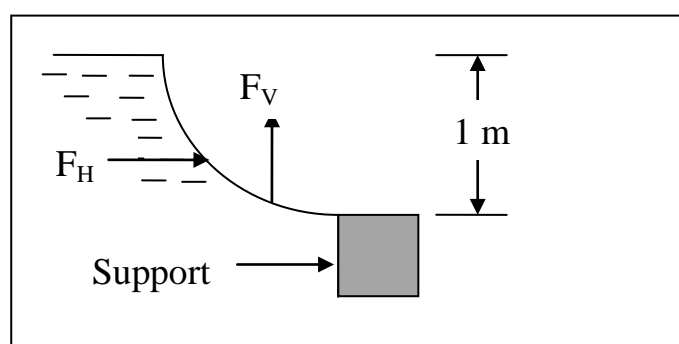

Fig. 2
5. (a) A gate having a shape of a quadrant of a circle 1m radius has to resist liquid (specific gravity 0.92) force as shown in Fig.2. If the width of the gate is unity, then determine the magnitude and direction of the resultant pressure force on the gate.